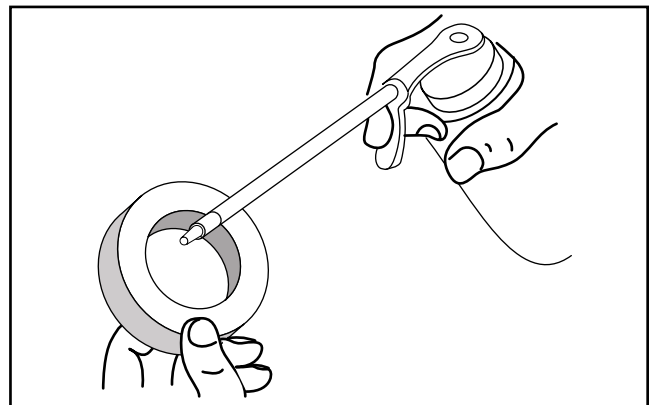

Fig. 38
4. Apply enough clean SAE 30 oil to saturate the filter (Fig. 38).